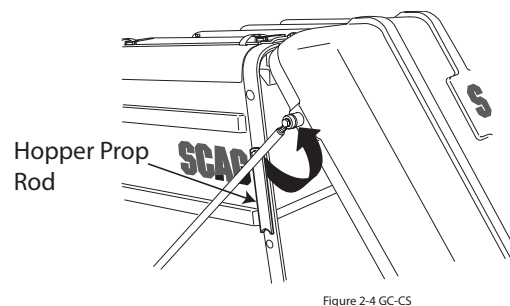

FIGURE 2-4
6. When service is needed inside the hopper, disengage the deck drive and allow all moving parts to come to a complete stop. Shut off the engine and apply the parking brake. Rotate the hopper door prop rod upward until it contacts the hopper door. This will prevent the hopper door from moving until the service is complete. See Figure 2-4.